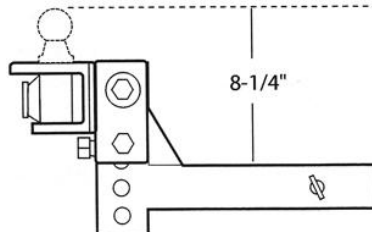

Fig. 2
3. Some installations may require a longer hitch bar ③ . Extended bumper guards, pickup truck "caps", or rear mounted spare tires can limit turn angles unless a longer bar is used. Individual hitch bars ③ are available in various sizes.
4. Insert the hitch bar ③ into the hitch box and install a pull pin ⑥ and spring clip ⑧. Hitch bar ③ may be used in either the up or down position (see Fig. 2).